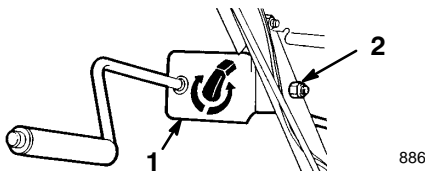

Figure 11
- Assemble the chute control bracket and rod to the left side of the handle with the capscrew and locknut. Leave the locknut loose until you completely mount the assembly (Fig. 11).
5. Tighten the locknut that secures the chute control bracket (Fig. 11).